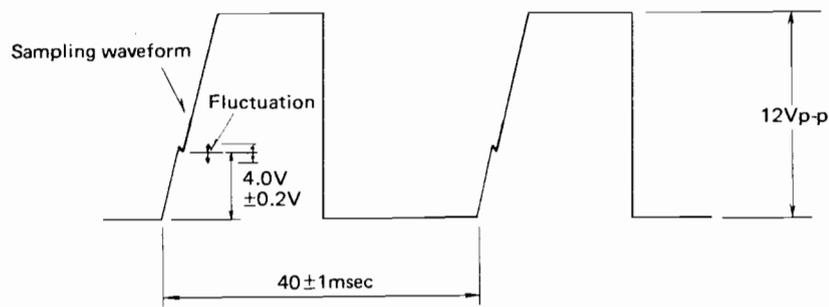

Fig. 2-1 Capstan Servo Trapezoidal wave
2. Adjust VR410 for a sampling voltage of $4.0V \pm 0.2V$. (Refer Fig. 2-1).